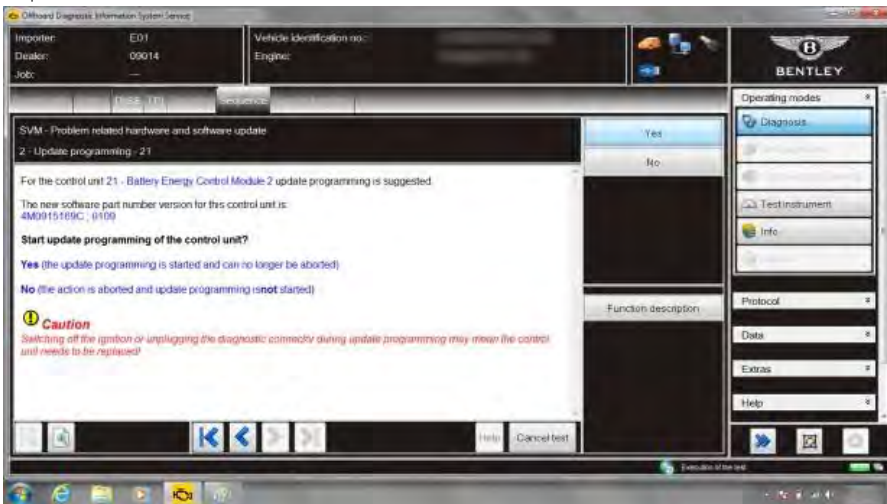

Figure 5
14. Select **Yes** at **Update programming 21** to update 21 – Battery Energy Control Module 2 (see Figure 5)